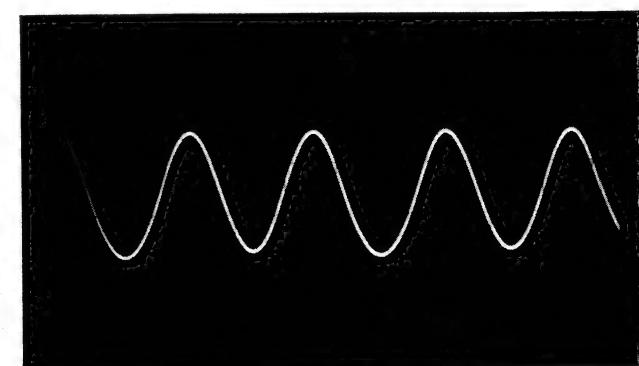

Figure 20 Symmetrical sinewave
- Fine-tune the generator for symmetrical sinewave on the oscilloscope (figure 20). The frequency thus found is now used for the further adjustments.